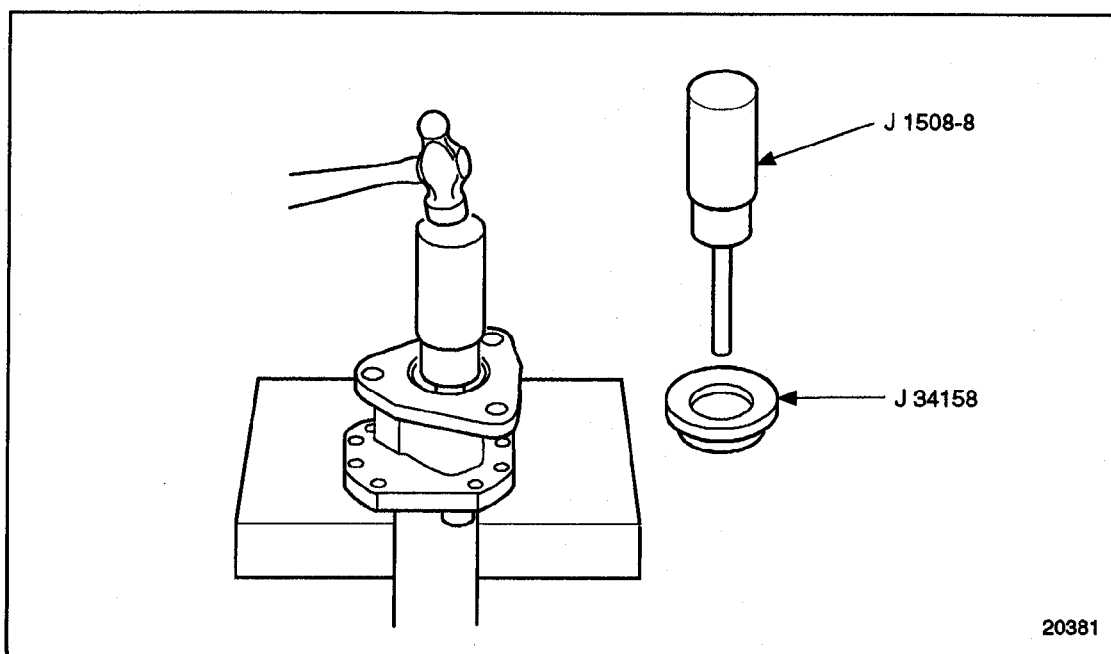

Figure 2-50 **Installing Inner Oil Seal**
4. Support the pump body on wood blocks, hub side up, and insert the pilot into the shaft bore positioning the seal on the bore. Use a light hammer and drive the inner seal into the bore until the adaptor is bottomed against the pump body. See Figure 2-50.